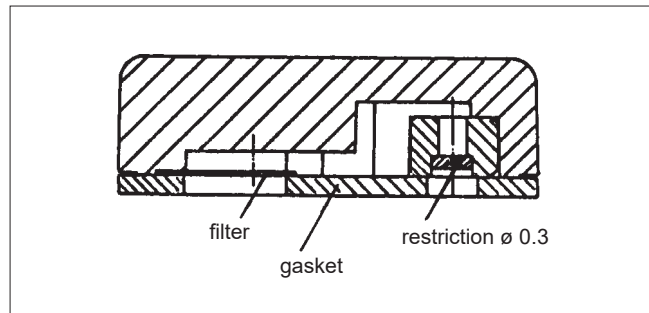

Fig. 16. Restriction assembly (24)
Remove the spring (40) and loosen the screws (23). Remove the zero adjustment wheel, the screw (15) and the nut (16). Replace the diaphragms (13, 14). See Fig. 16. Note the installation position of the diaphragms convolution.